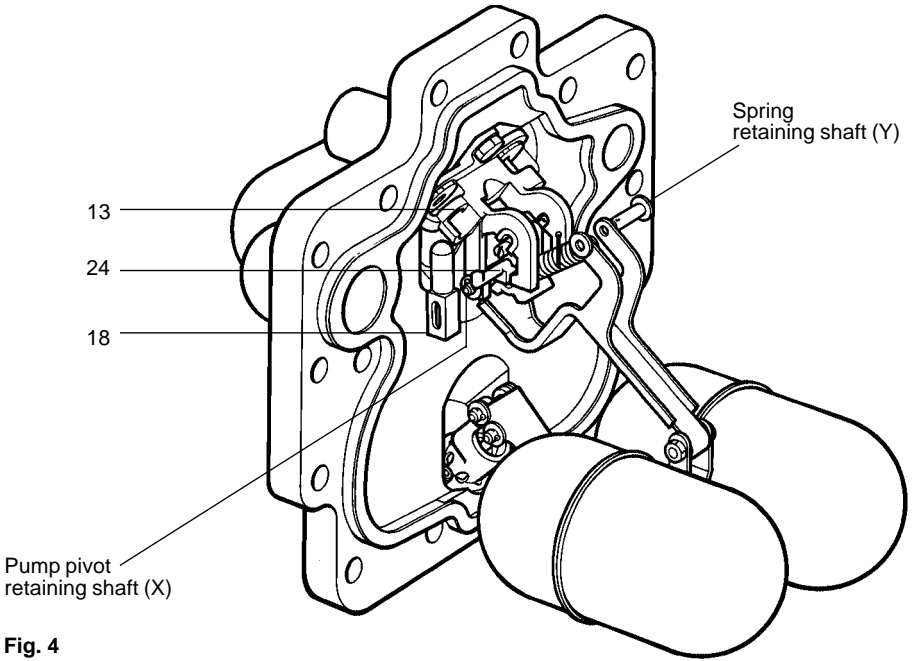

Fig. 4
4. Remove split pins, washers, and shafts (X and Y) from the top spring pivot and pump pivot points (See Fig. 4).
6. Draw the actuator arm downwards within its slots until the whole spring and actuator arm assembly with the exhaust valve comes free. It may be necessary to slide the exhaust valve (item 18) backwards against its internal spring to free it from the pump bracket guide (item 13).
8. Gently rotate the exhaust valve away from the tanged spigot of the actuator arm (item 24, shown in Fig. 4) being careful not to damage or lose the small exhaust valve compression spring.